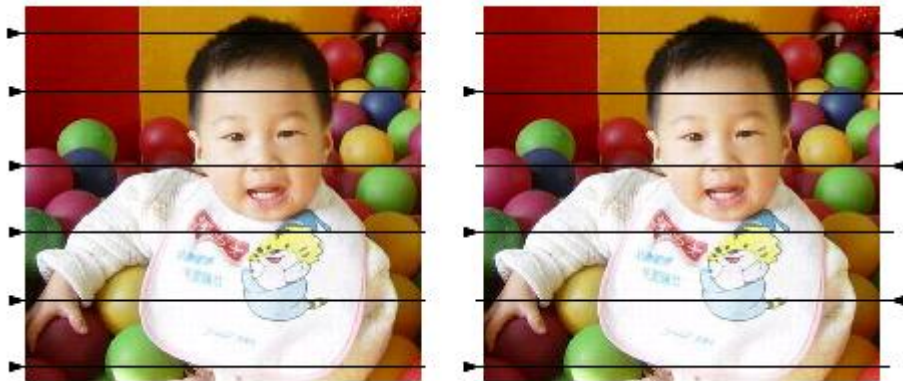

Figure 4-57 Left is unilateral scan; right is bidirectional.
**Bidirectional Scan:** the scan mode is bidirectional when in marking process (Figure 4-57)